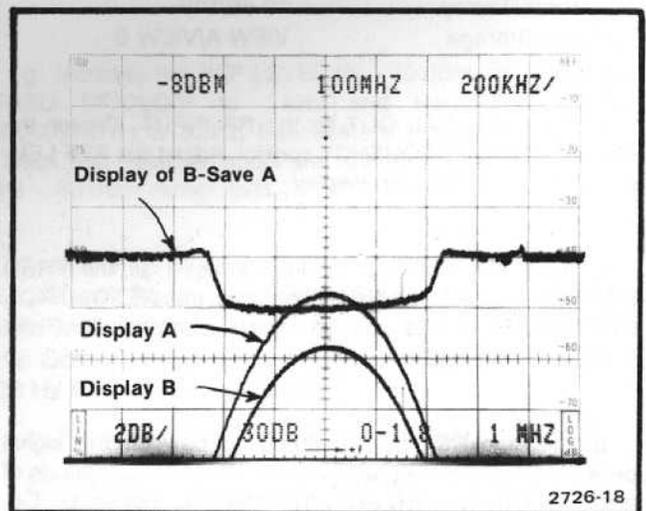

Fig. 3-17. Multiple exposure to illustrate how the differential between two signals can be measured.
d. Activate **B-SAVE A**. Check that **B-SAVE A** display is the algebraic difference between **display B** and **display A** (see Fig. 3-17).